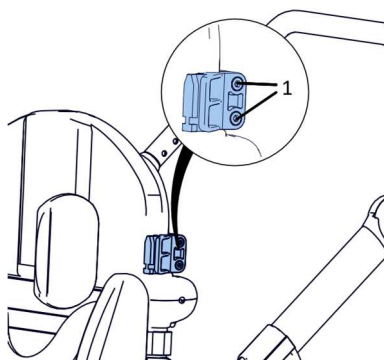

Fig. 26
The mounting position of the canopy catch Fig. 26 is possible along the backrest profiles after loosening the screws (1) with an H4 wrench. This operation should be repeated on both sides of the pushchair, setting the mounting position at the same height. After determining the mounting position, tighten the screws (1).